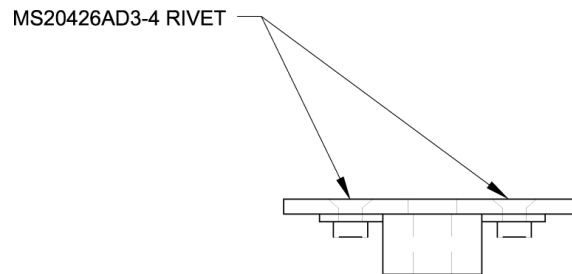

Figure A-16 Riveted Nutplate And Disk
11. Rivet nutplate to disk with MS20426AD3-4 rivets as shown in Figure A-16.